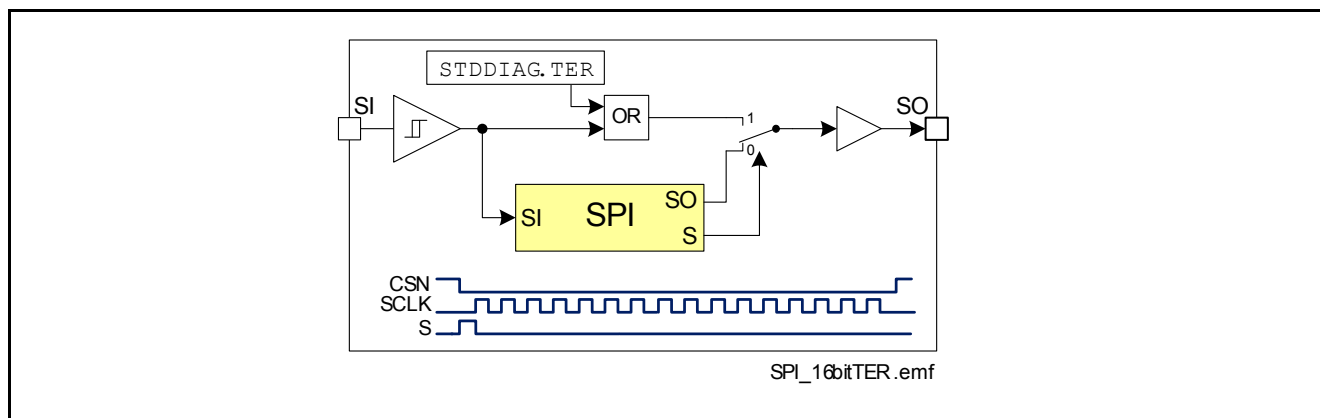

Figure 30 Combinatorial Logic for TER bit
- **TER** Flag will set the Bit number 10 in the STD diagnosis Frame. This Bit is set to HIGH after an undervoltage condition, reset via SPI command, on Limp Home state entering or after an incorrect SPI transmission. **TER** Flag can be read also directly on the SO line between the falling edge of the CSN and the first rising edge of the SCLK according to the **Figure 30**.